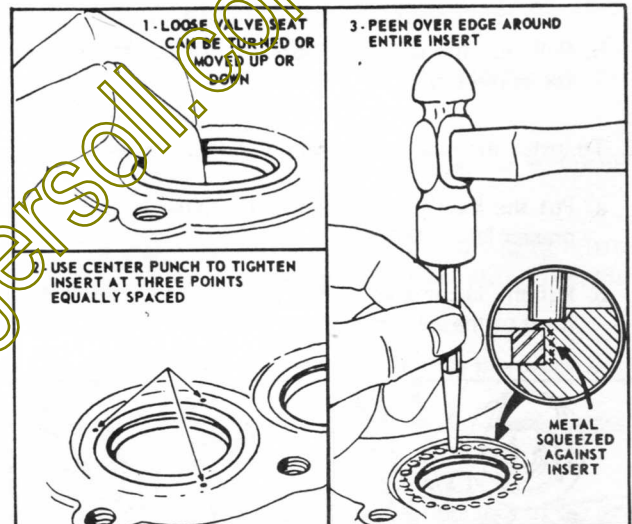

FIGURE 5-11
5. Use a punch as in figure 5-11 to fasten the insert in place.